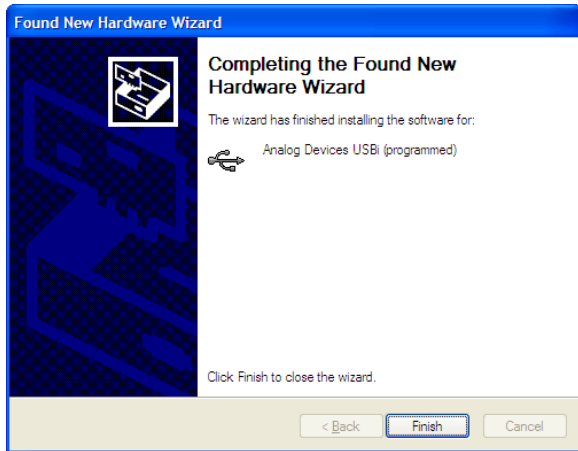

Figure 7. Driver Installation Complete
9. When the installation of the drivers is complete, the window shown in Figure 7 appears. Click **Finish**.